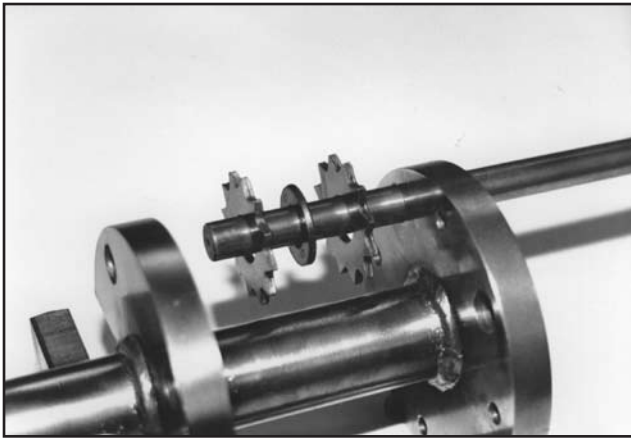

FIGURE 14
1) Install a flail next to the outside side plate of the narrow section. Next, install a spacer washer. Follow with a flail and continue the sequence until the section is full. FIGURE 14.